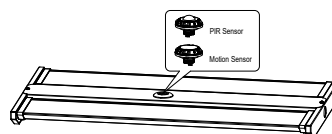

Figure 13
- Step 2. Twist-lock the DC sensor to the base to make it work properly. Use a remote control to adjust the working mode as per demand. (Figure 13)